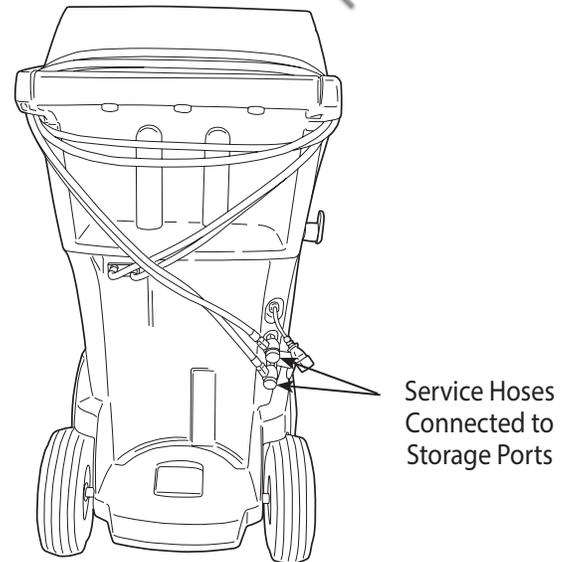

Figure 2
2. When prompted, connect the service hoses from the machine to their storage ports as shown in Figure 2.